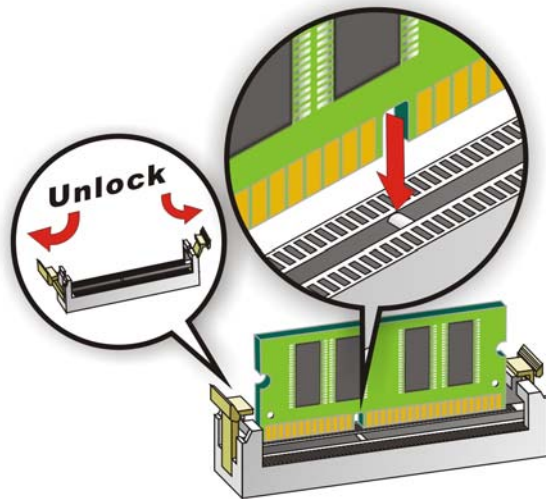

Figure 4-6: SO-DIMM Installation
To install a SO-DIMM, please follow the steps below and refer to **Figure 4-6**.
- Step 1:** **Open the SO-DIMM socket handles.** Open the two handles outwards as far as they can. See **Figure 4-6**.
- Step 2:** **Align the SO-DIMM with the socket.** Align the DIMM so the notch on the memory lines up with the notch on the memory socket. See **Figure 4-6**.
- Step 3:** **Insert the SO-DIMM.** Once aligned, press down until the SO-DIMM is properly seated. Clip the two handles into place. See **Figure 4-6**.